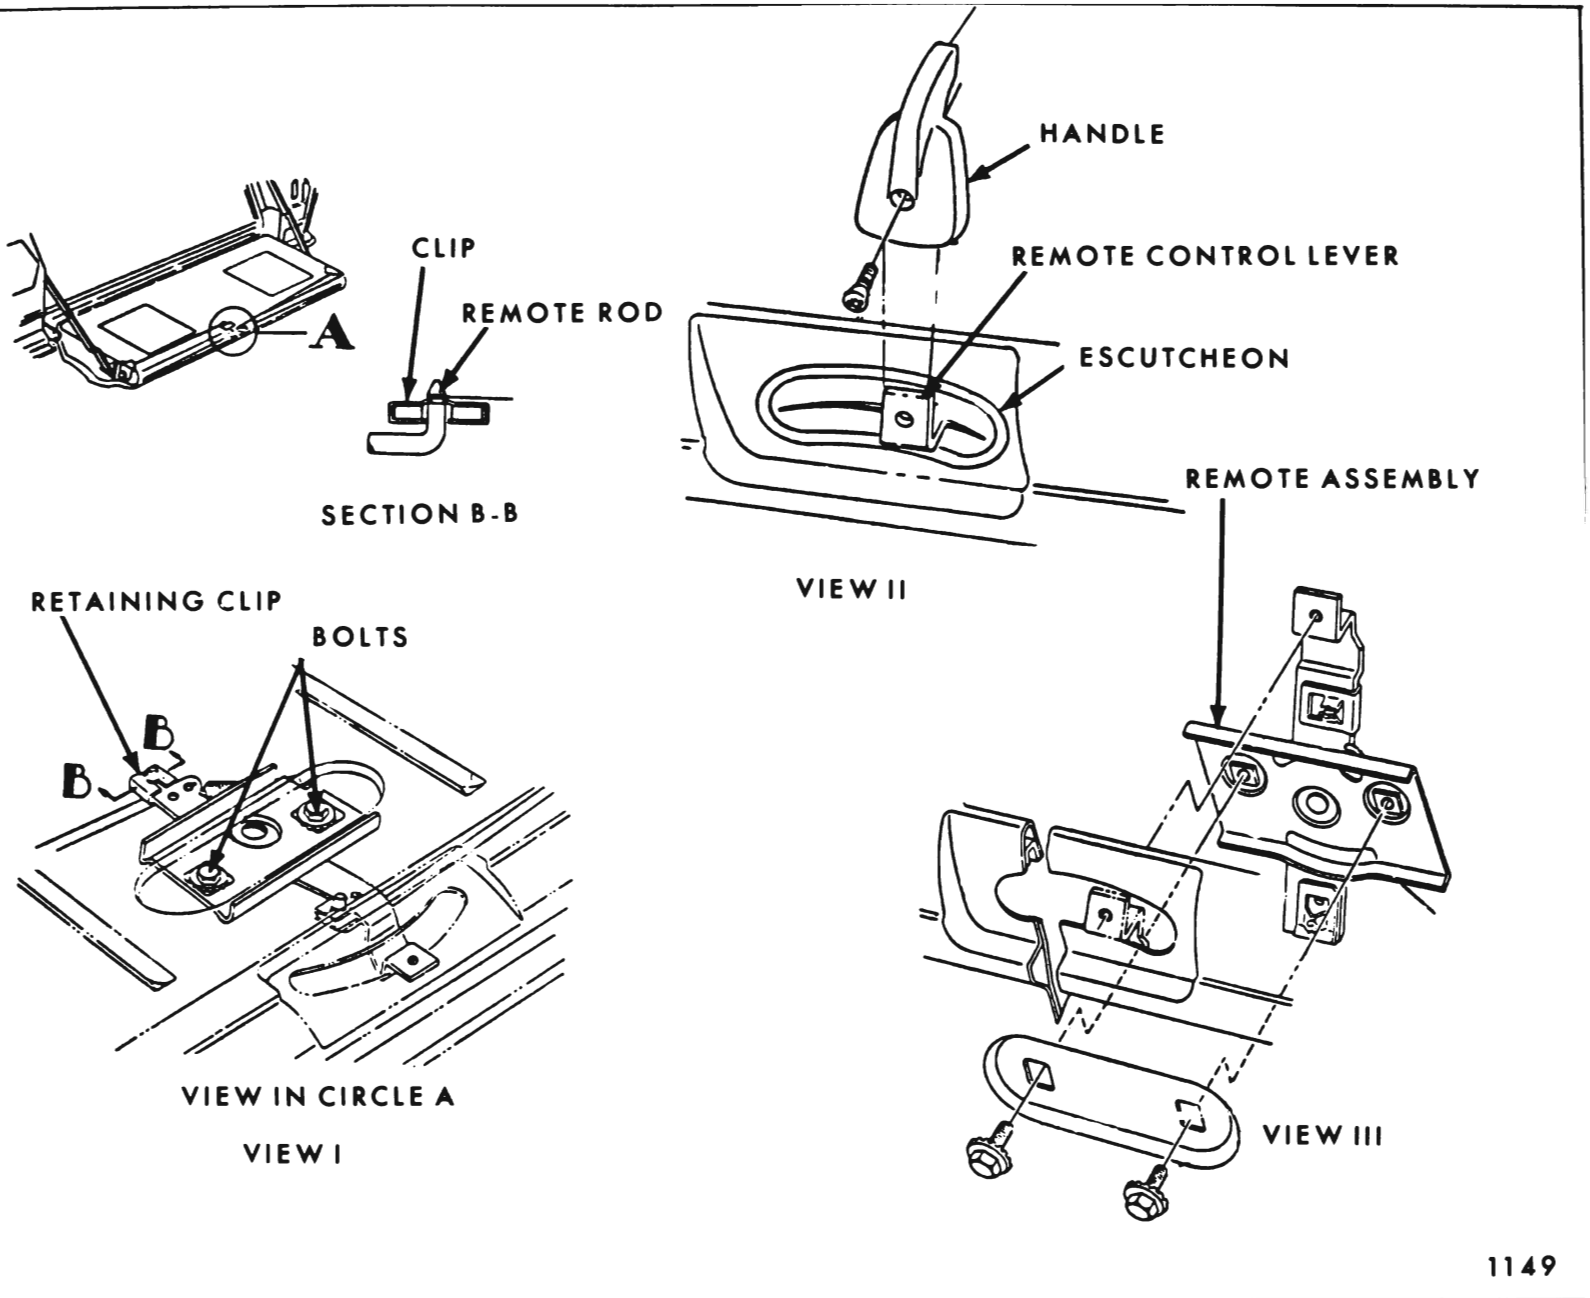
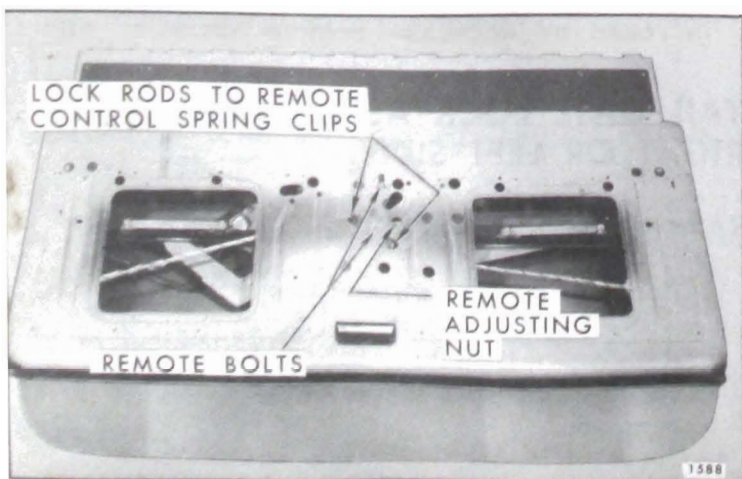

Fig. 9-42—Tail Gate Lock Remote Control Assembly - "X" Body Styles
Fig. 9-43—Tail Gate Hardware - "A & B" Body Styles
2. Disconnect remote control to lock connecting rods at remote assembly by sliding clip out of engagement. (See Section "B-B" in Fig. 9-42.)
3. On "X" Body Styles, remove remote control inside handle attaching screw and remove handle. (See View II in Fig. 9-42.) Pry out and remove escutcheon.
4. Remove remote control attaching bolts and remove assembly from tail gate. On "B" Body Styles, it will be necessary to disengage remote from inside handle push rod. (See Fig. 9-42 for "X" Body Styles and Fig. 9-43 for "B & A" Body Styles.)
NOTE: The remote adjusting nut on "B" and "A" Body Styles (Fig. 9-43) can be adjusted to increase or decrease remote operating effort.